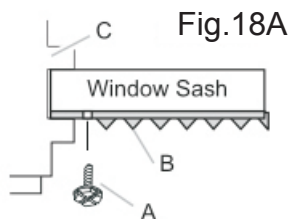
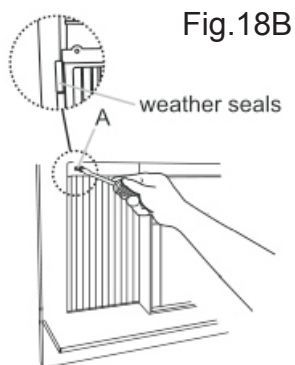

Fig.18A
Fig.18B
2. Use a $1/8$ " drill bit to drill a starter hole through the hole in the top leg of each window filler panel and into the window sash (Fig. 18A and Fig. 18B). Connect with one $3/4$ " (or $1/2$ ") long hex head screw.